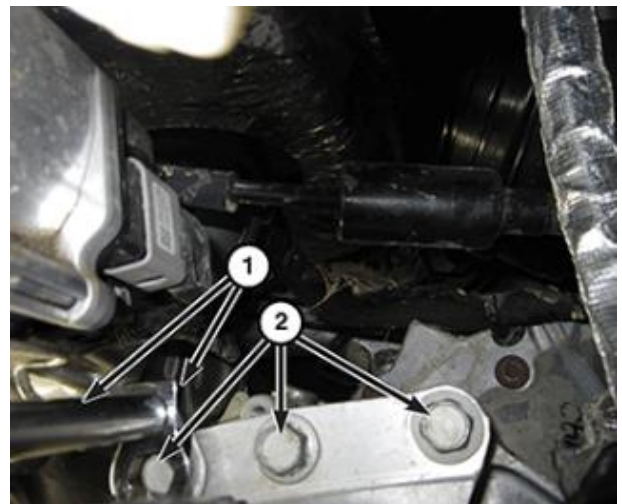

Figure 35 – PTU to Transmission Fasteners
16. Using appropriate tools (1), remove the fasteners (2) holding the PTU to the transmission (Figure 35).